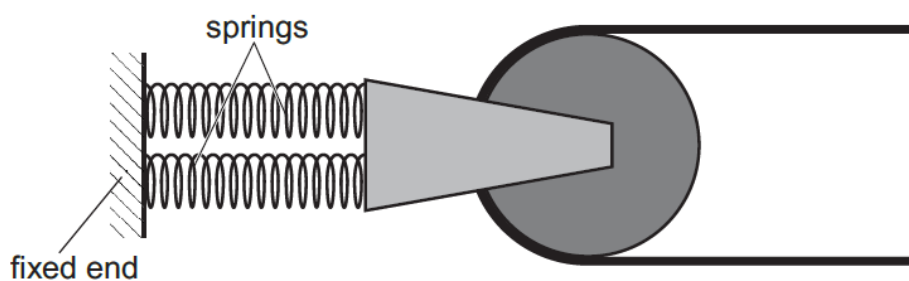

Fig. 3.3
(c) A second identical spring with the same spring constant of 250 N m^{-1} is now also connected to the pulley, as shown in Fig. 3.3.
- (ii) The elastic potential energy stored in the spring in Fig. 3.1 is E_1 . The **total** elastic potential energy stored in the two springs in Fig. 3.3 is E_2 .